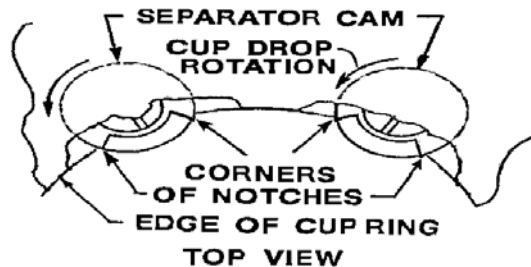

FIGURE 624
The Full Cycle Switch controls the cup drop motor [B5] by signaling the CDB to power off the cup drop motor at the homing position. If adjusted correctly the six cams should be homed in the proper stop position. Their shoulder surfaces should be fully exposed to accept and hold up the cup stack by the cup rims. The cams also have a top slicing edge that should be retracted away from the cup rims in stand-by (see Figure 624 below).
1. **Check Adjustment** - remove all cups from the cup ring. Look down at all six cams and verify that all the cam shoulder sections are facing to middle of cup ring opening. The left and right corner notches on the cams should be retracted back in stand-by as shown in Figure 624. If cams are out of position, perform following steps B & C: